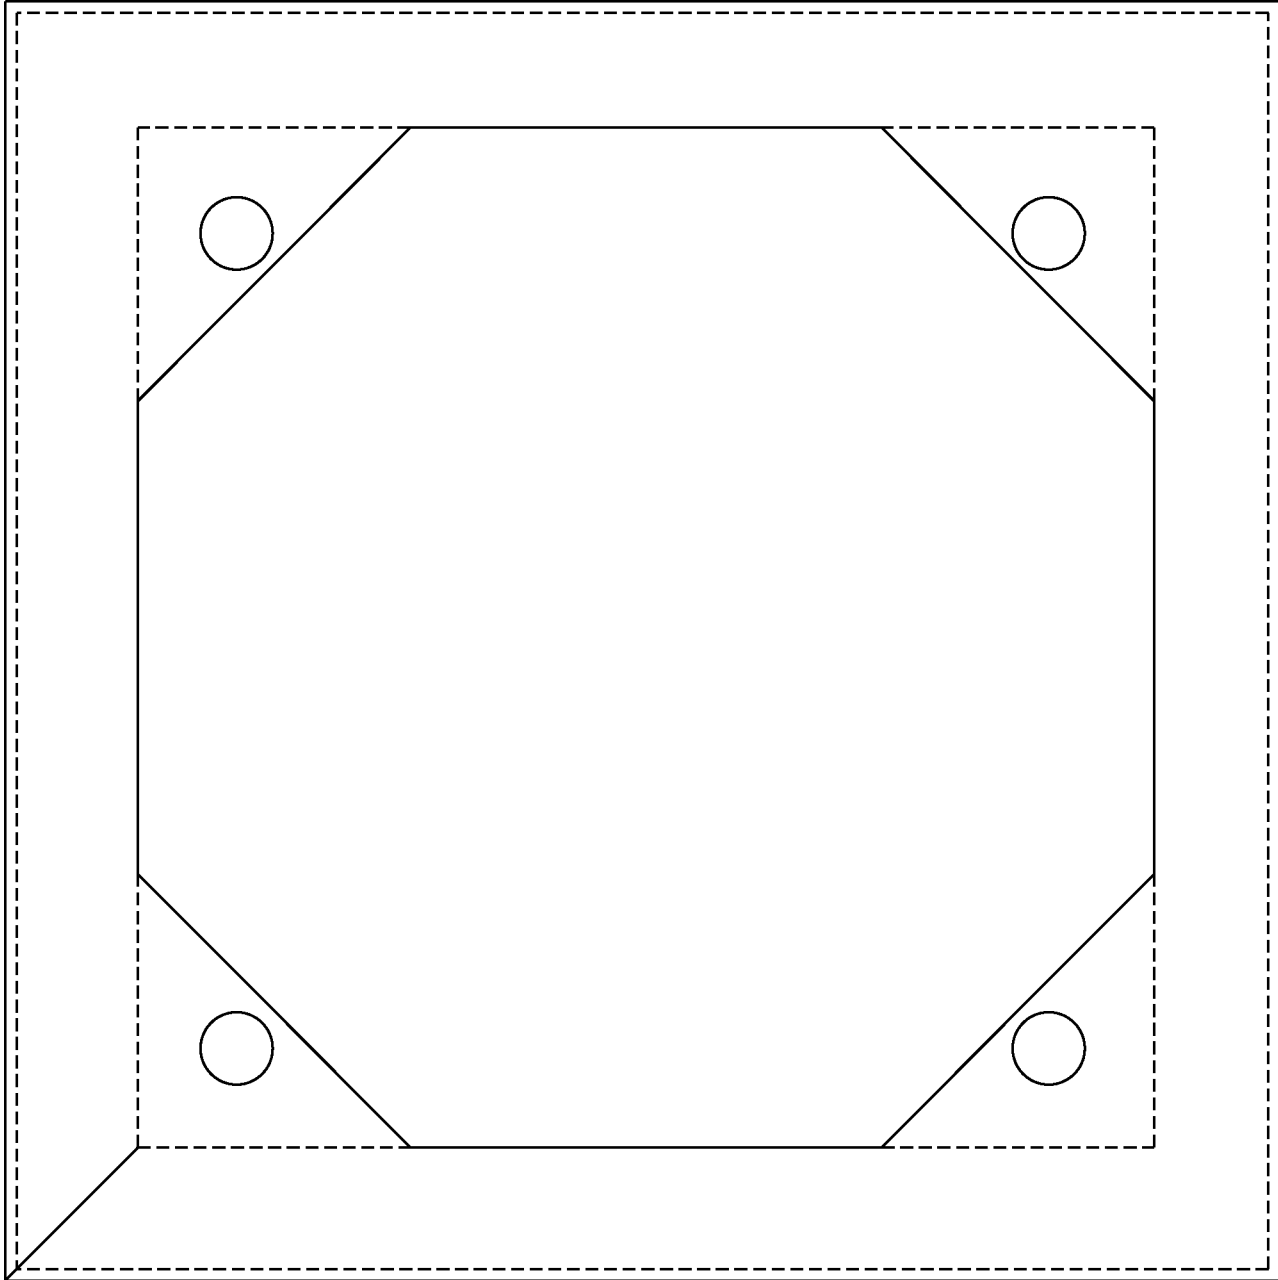

Figure 3: A4098-9847 Extension Box Mounting Template (Surface Mounting)
- Use Figure 3 if you are surface mounting with the A4098-9847 Extension Box.
- Use Figure 3 for surface mount applications.